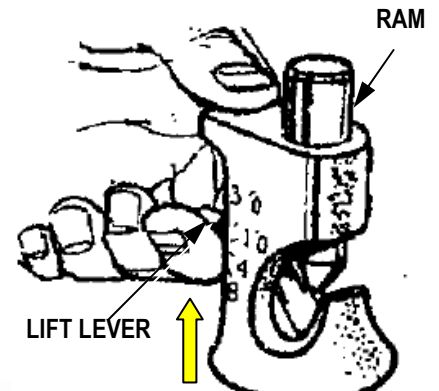

Figure 1
3. Use an index finger under the lift lever and push up. See Figure 1.